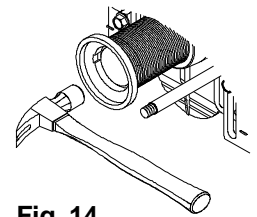

Fig. 14
- a. Standard, -CS, and -CC Couplings – Remove coupling protector. Ensure coupling extends 5/16" from finished wall. Knock out the test cap with a hammer and deburr sharp edges. See Fig. 14